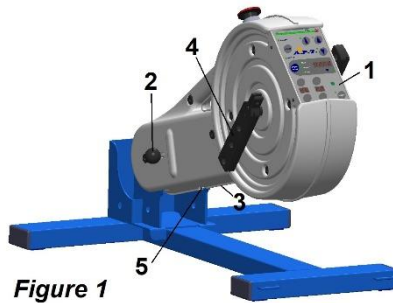

Figure 1
4.1. **APT-5+ unit (Figure 1)**